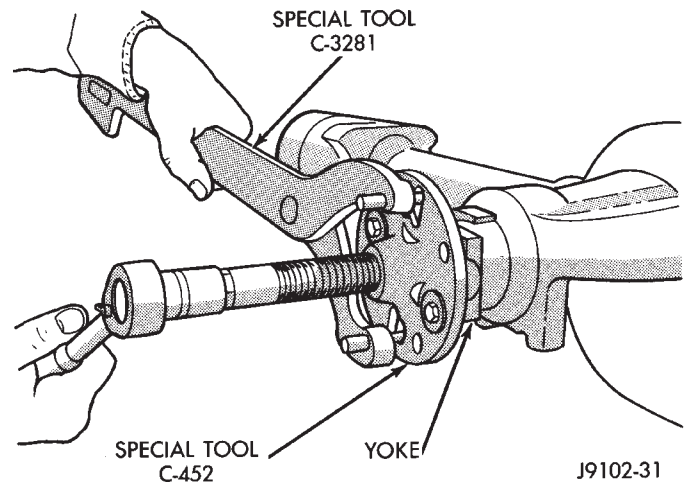

Fig. 2 Pinion Yoke Removal
(6) Measure the amount of torque (in Newton-meters or inch-pounds) necessary to rotate the pinion gear with a torque wrench. Note the torque for installation reference. **It must be known to properly adjust the pinion gear bearing preload torque after seal installation.**
(7) Remove the pinion yoke nut and washer. Use Remover C-452 and Wrench C-3281 to remove the pinion yoke (Fig. 2).
(8) Mark the positions of the yoke and pinion gear for installation alignment reference.